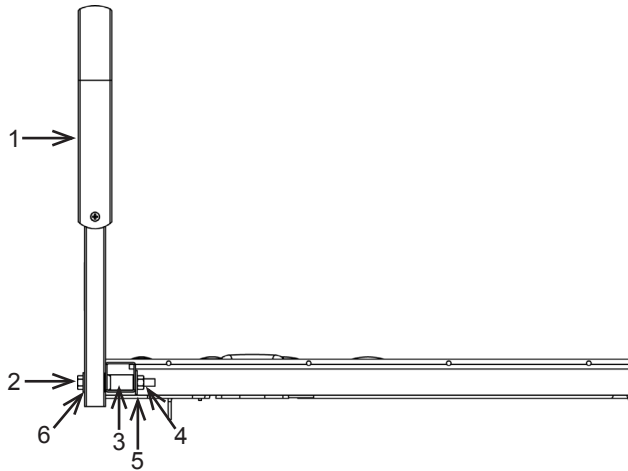

Figure 9
7. Refer to Figures 9, 10 and 11 on page 7 for reference on installation.